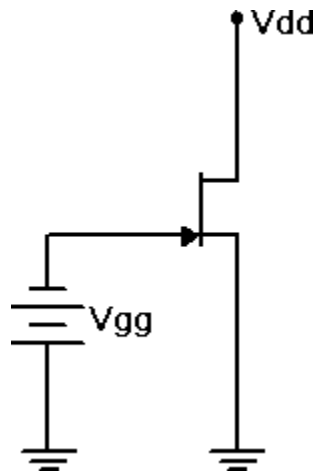

Figure 1
1. Consider the circuit of Figure 1 using  $V_{DD} = 15$  volts and  $V_{GG} = 0$  volts. With nothing else in the circuit, the resulting drain current should equal  $I_{DSS}$ . Similarly, if  $V_{GG}$  is gradually changed to a value negative enough to drop the drain current to zero,  $V_{GG}$  must be equal to  $V_{GS(OFF)}$ .
2. Build the circuit of Figure 1 using  $V_{DD} = 15$  volts and  $V_{GG} = 0$  volts. Insert an ammeter in the drain and record the resulting current in Table 1. Slowly increase the magnitude of  $V_{GG}$  (i.e., make it more negative) until the drain current drops to zero (as a practical point, try to get it under  $10\ \mu A$ , or as low as the ammeter will allow). Record this voltage in Table 1. Repeat this process for the other two transistors. Be sure not to confuse the JFETs. Keep them in order.